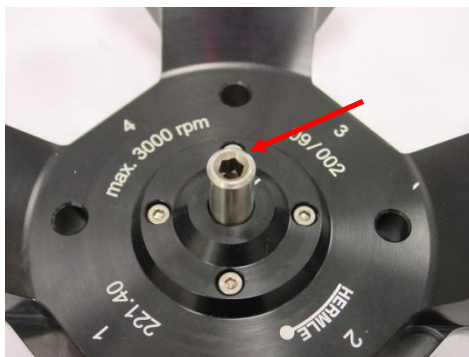

Figure 14
Hold the rotor with one hand and secure the rotor to the shaft, by turning the fixing nut clockwise (see Figure 12). Tighten the fixing nut with the provided Allen key, (see Figure 14).
**ATTENTION:** For safety, always ensure that the rotor fixing screw is tightened before each run, (see Figure 14)!